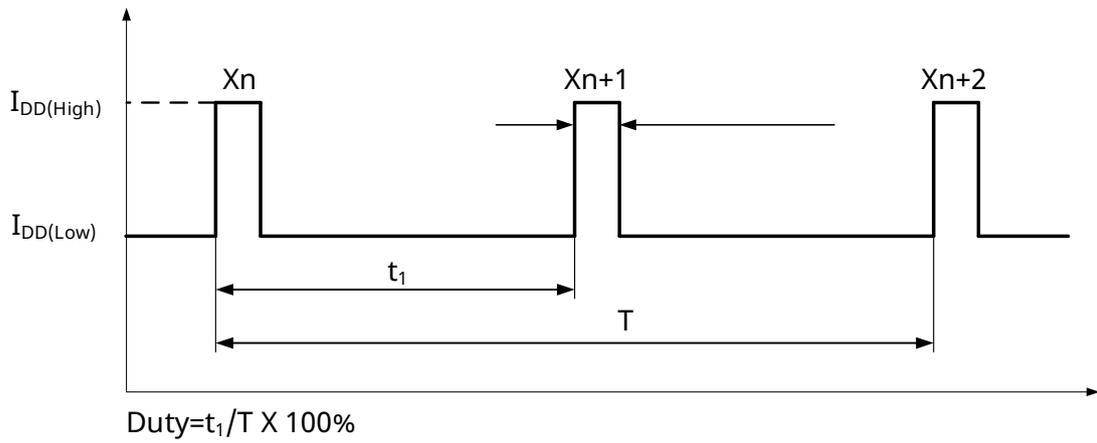

Fig.9 Duty cycle definition
(2) The magnetic field difference between the two Hall induction points on the outside of the back magnetic field only, without gears or at rest of the gears
(3) The difference between the magnetic field value of the middle Hall induction point and the average magnetic field value of the outer two Hall induction points when the back magnetic field is only, no gear, or the gear is stationary
(4) After eliminating the back magnetic deviation, the magnetic field difference between the two outside Hall induction points is passed in the case of gear or magnetic ring rotatio
(5) The ratio of the change in current to the increase in power supply as the operating voltage increases
(6) The duty cycle of 3 output pulses is calculated. Refer to Figure 9 for specific definition